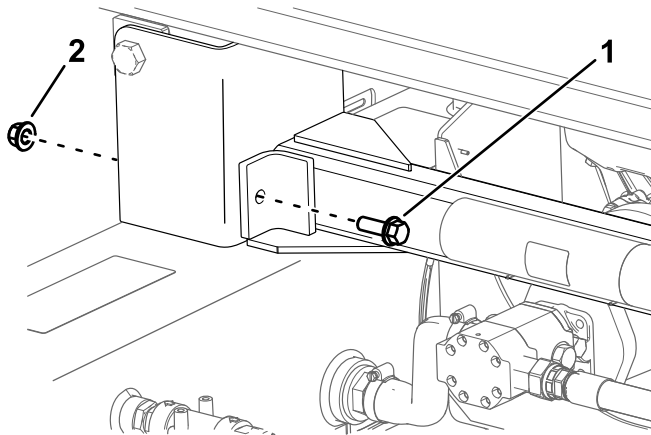

Figure 1
2. On 1 side of the pole, remove the bolt and nut, then install a grade 8 bolt and nut (Figure 1). Do not torque the bolt.